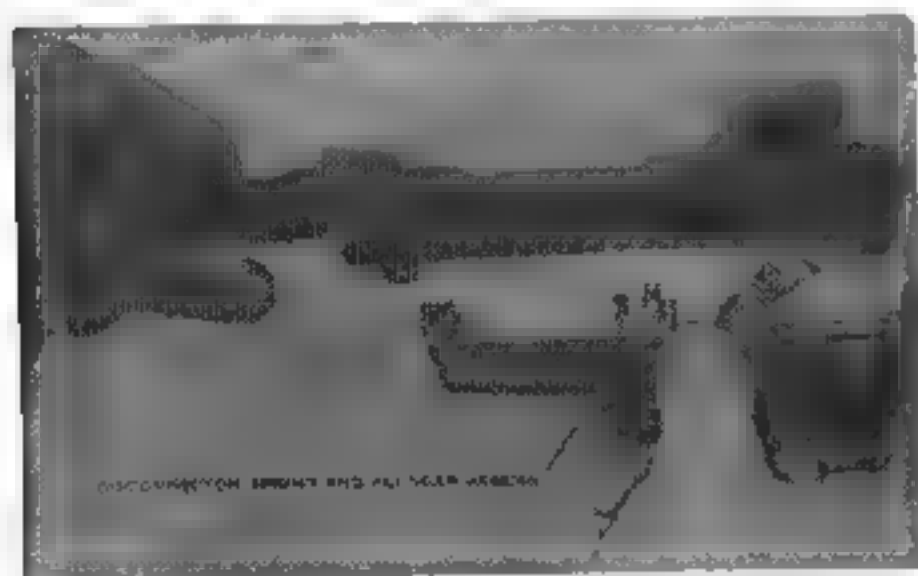

Figure 11. Removing the trigger housing group.
i. Hold the barrel and receiver in the left hand with the muzzle to the left, sights up. Remove the trigger housing group to the rear (Fig. 11). Be careful not to lose the disconnecter spring and plunger assembly.